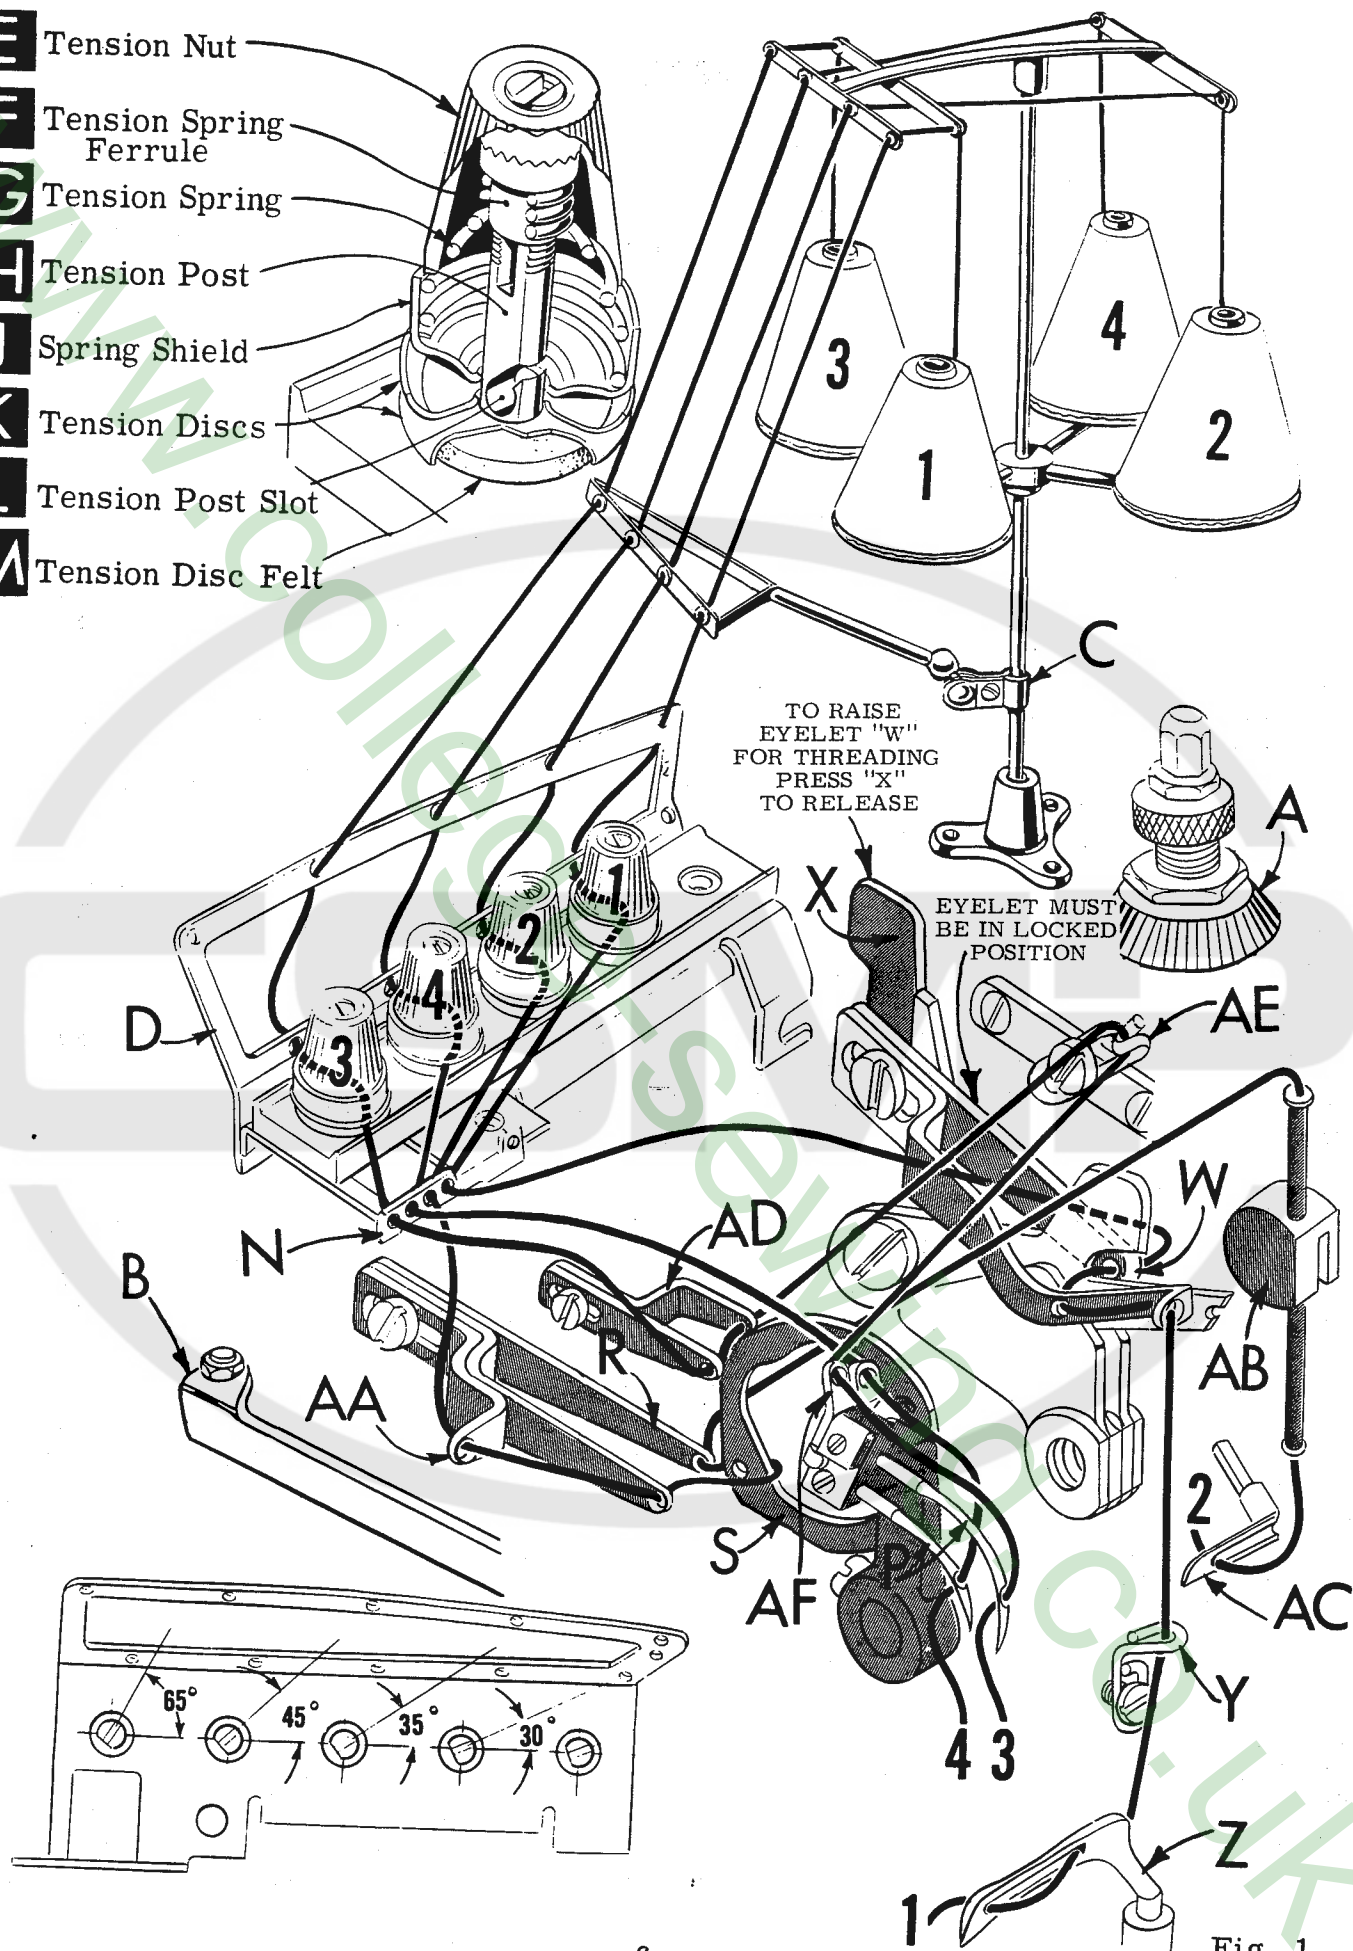
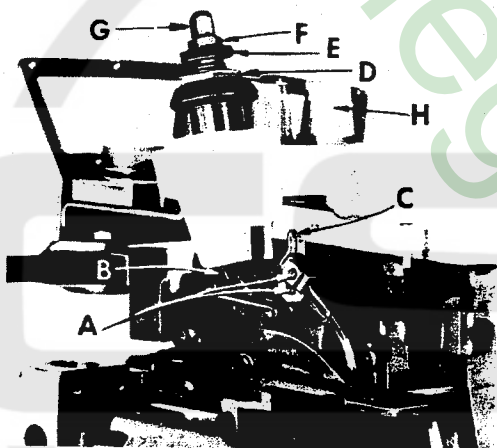
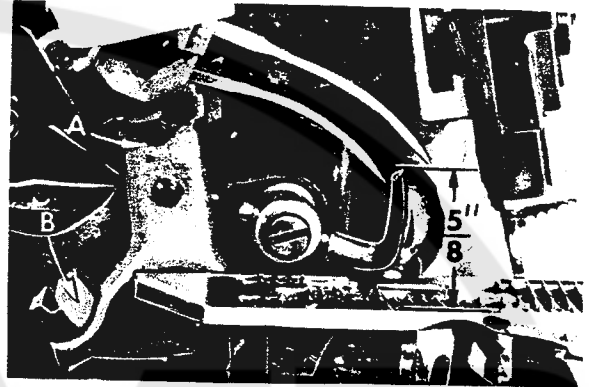

Fig. 1
Fig. 2
Fig. 3
Release pressure on presser foot by turning the presser foot release bushing (A, Fig. 1 or 1A) and swinging presser arm (B) out of position. Turn handwheel in operating direction (away from operator) until needle holding screws (A, Fig. 2) are just exposed from behind presser spring plunger (B) and accessible to screwdriver. Loosen screw and withdraw needle. When replacing needles observe the position of the flat which is at the left of the shank and be sure the needle is inserted the full depth to the combination eyelet and stop plate (C).
Only parts involved in threading are shown in threading diagrams (Fig. 1 and 1A). Parts are placed in their relative positions for clarity.
The amount of tension on the needle and looper threads is regulated by the knurled tension nuts (E, Fig. 1). Tension on the threads should be only enough to secure proper stitch formation. Using a postal scale, the measurements are taken with the needles at the top of their stroke and pulled in the direction as indicated. As a start the tensions for the 515 stitch type may be as follows:
Sufficient pressure to feed work uniformly should be maintained. Should it be necessary to increase or decrease amount of pressure on presser foot loosen lock nut (D, Fig. 2) and turn the adjusting screw (E). Adjusting screw has a right hand thread so tightening increases the pressure, loosening decreases pressure. When pressure adjusting screw (E) has been properly set, tighten lock nut (D). With presser foot resting on the throat plate, position locking nut (F) so that its under surface is approximately 1/32 inch to 1/16 inch from the top surface of adjusting screw (E). Set the cap (G) against the locking nut (F).
Release the pressure on presser arm and swing arm out of position. Insert both needles (Type 161 GS for the 401 stitch and Type 154 GAS for the overedge stitch) into the left and right holes, respectively, of the needle driving arm (A, Fig. 3), so that the butt ends contact the needle driving arm thread eyelet (C, Fig. 2). Secure needles in this position with clamp screws (A, Fig. 2).
With the throat plate assembled in position, the needles should center in the throat plate needle holes. To align the needles, loosen clamp screw (B, Fig. 3) and reposition the needle driving arm to the right or left as required. The height of the needle driving arm is correct when the point of the left needle is $\frac{5}{8}$ inch above the throat plate (Fig. 3) when at the top of its stroke. Tighten clamp screw (B) after correct height has been obtained and needles have been centered in the throat plate needle holes. Remove throat plate
For convenience the looper may now be threaded as shown in (Fig. 1 or 1A) and as described under paragraph "To Thread 401 Looper". Replace differential feed dog, throat plate, lower knife holder and reset upper knife. Check cutting action with thread.